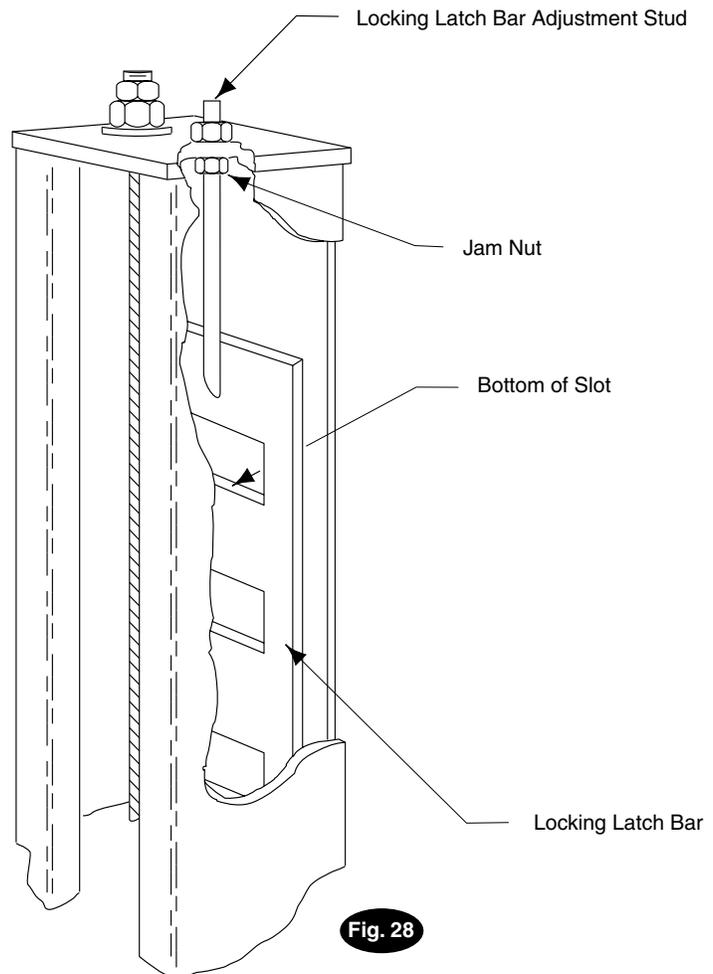

Fig. 28
- 3. Adjust locking latch bar adjusting nut so that the bottom of the topmost latch bar slot is at least 2" below locking latch, Fig. 28. After adjustment, tighten jam nut underneath column top plate, Fig. 28.